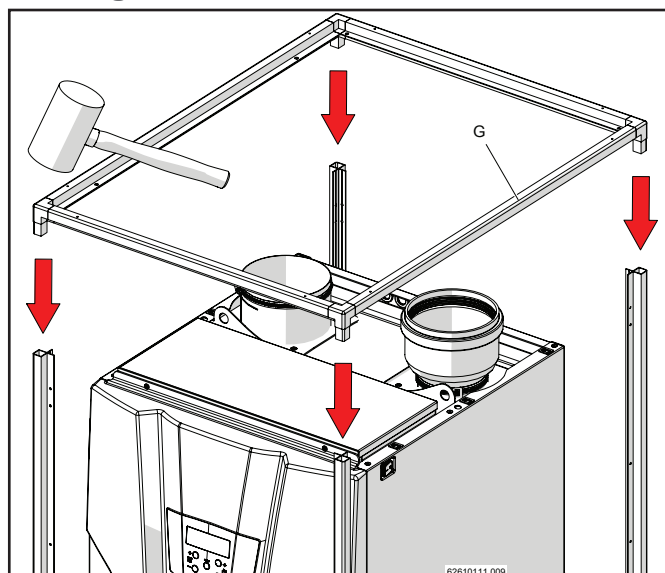

Figure 15-42
- 6.- Insert the upper framework "G" of the external cover using a rubber mallet (figure 15-42).